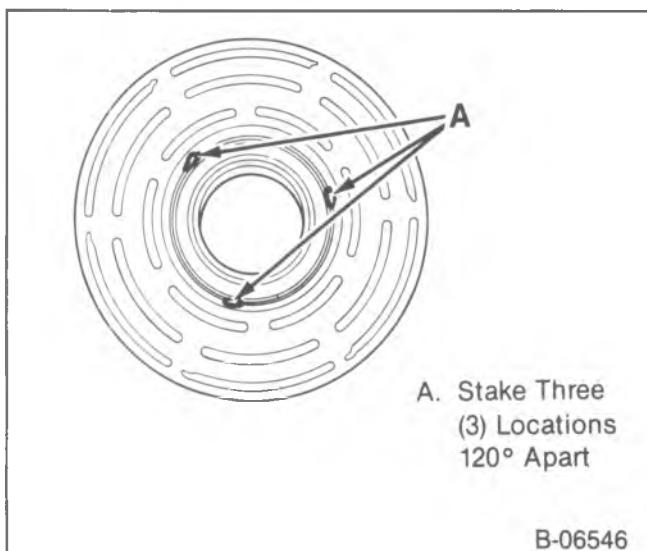

Figure 14—Staking Locations
- Stake 3 places 120 degrees apart (figure 14).
- 3. Pulley (5) on the front head.